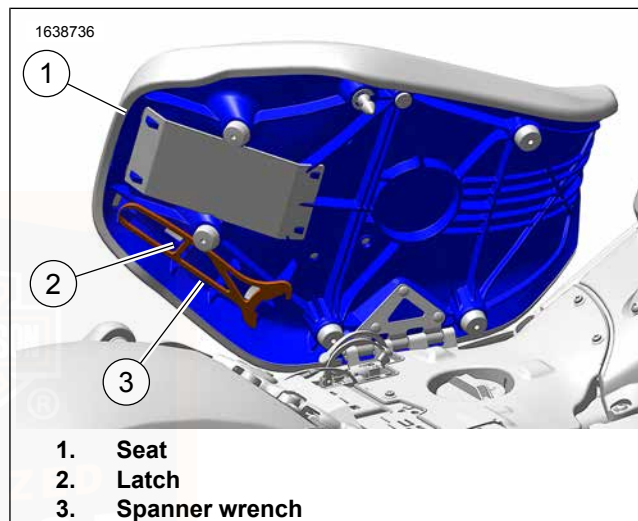

Figure 17. Spanner Wrench Retention Pocket
2. See Figure 17. Lift the latch (2) and slide the spanner wrench (1) from the retention pocket.